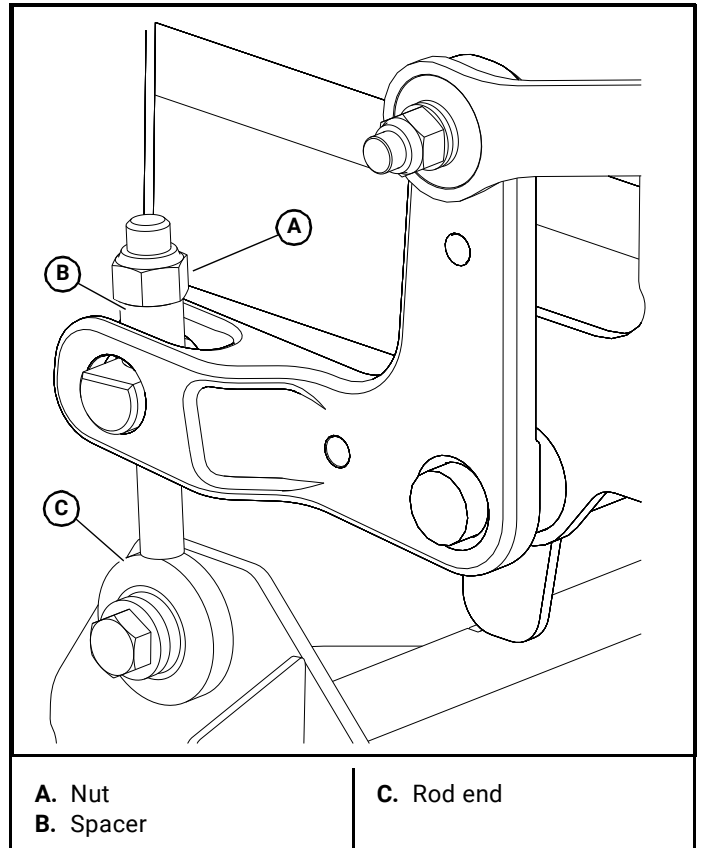

Figure 6-2
6. Adjust the nut on each deck level rod end over the three blocks so that the deck is sitting on the block and the nut is on the deck level spacer. Figure 6-2